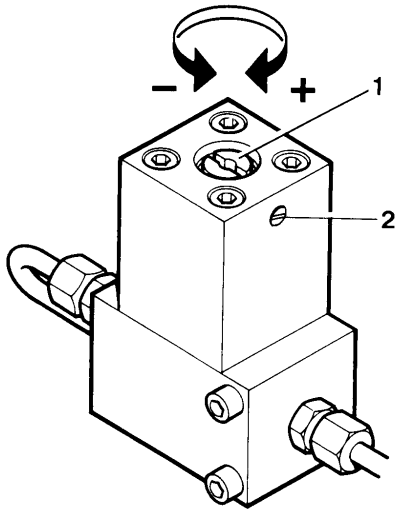

Fig. 71 Pressure maintaining valve, 500 bar units
The opening pressure is adjustable with screw (1, Fig. 71). First turn out stud (2) several turns.